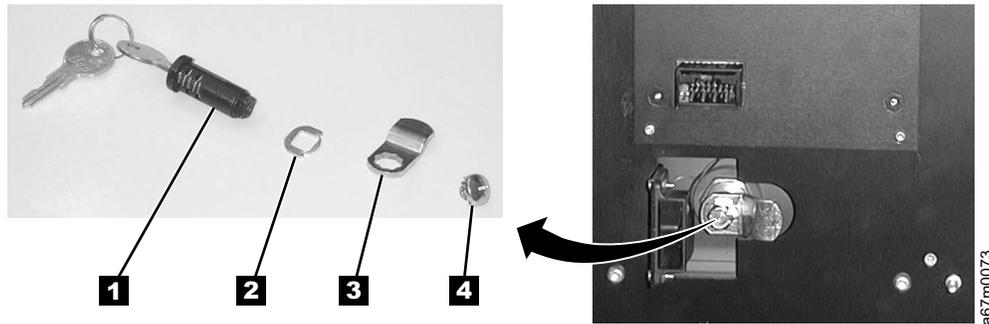

Figure 7-45. Door Lock Assembly, Remove/Replace
See Figure 7-45 for location of components in following procedure.
4. See Figure 7-45, note the position of the latch **3**. Latch must be in the same position during replacement as during removal.